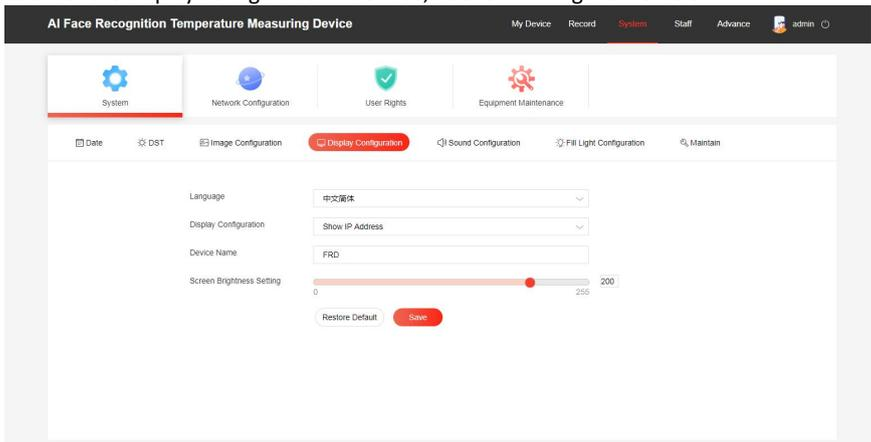

Figure 7-8
Step 1: After logging in to the web page, click "System → System → Display Configuration" to enter the display configuration interface, as shown in Figure 7-8 below.